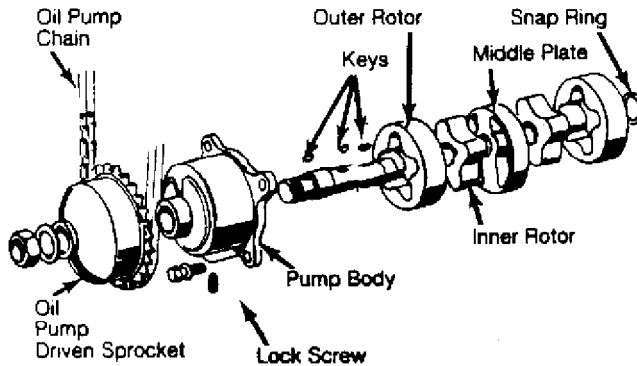

Fig. 30: Exploded View of Oil Pump Assembly
2) Disassemble oil pump in following order: Remove snap ring, rear outer rotor, rear inner rotor, key, and middle plate. Remove front inner rotor, key shaft, spring pin, and front outer rotor. See Fig. 30.